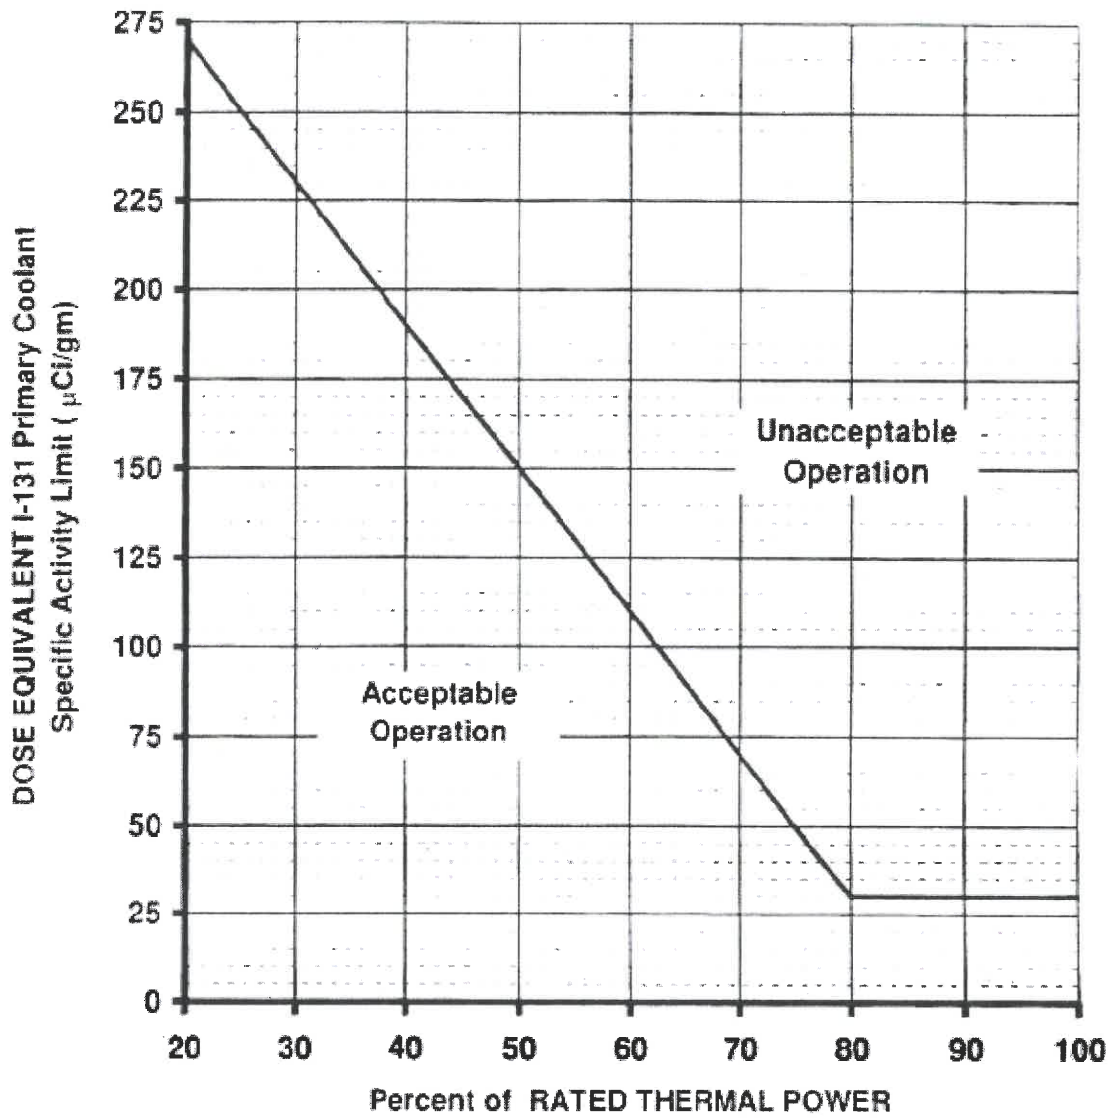

Figure 3.4.16-1
A.1 Verify DOSE EQUIVALENT I-131 within the acceptable region of Figure 3.4.16-1.